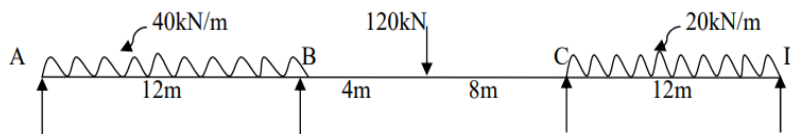

Fig. Q8
8. Analyse the continuous beam shown in Fig. Q8 by Flexibility matrix method. Draw BMD 20 (3 : 4 : 2.2.1)